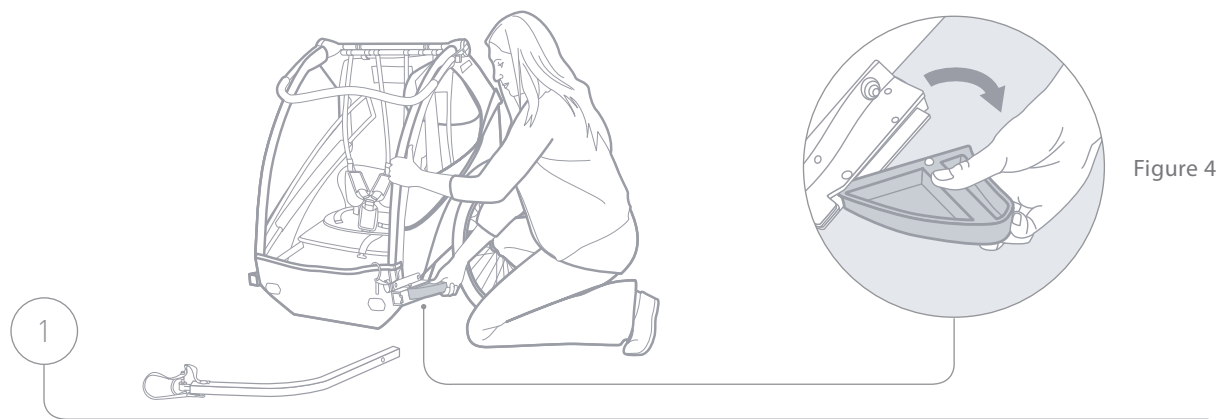

Figure 4
1. Squeeze buttons on top and bottom of wheel guard to open (Figure 4).